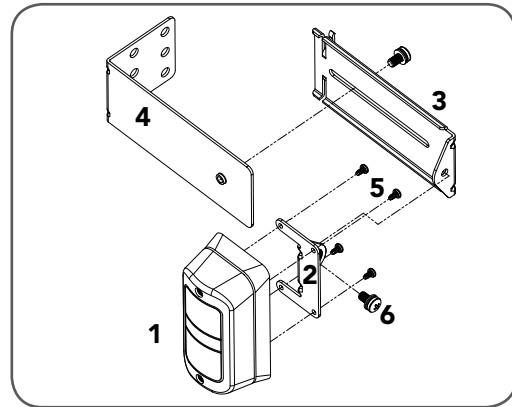

fig 49
- Attach the mounting bracket (4) to adjustment bracket (3) with the pan head screw (6) (supplied) (Fig. 49).
- Attach the PE 2000TS bracket (2) to PE beam transmitter (IR-200TS-TX) with four taptite screws (m3x5) and attach the other side to adjustment bracket (3) with the pan head screw (6) (supplied).